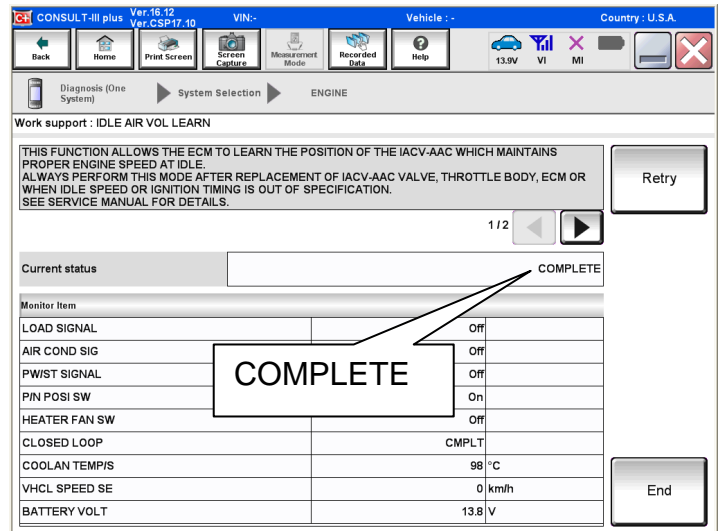

Figure 5
- CIII plus will display “COMPLETE” in the Current status box when the IAVL procedure is finished. See Figure 5.